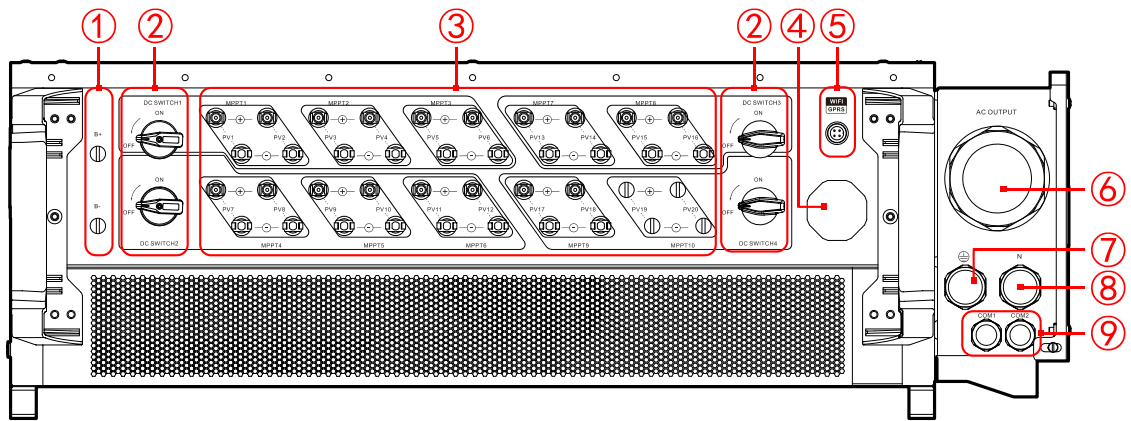

Figure2-7 Bottom layout
The bottom layout of inverter is as shown in Figure2-7.
The DC switch (as shown in the ② of Figure2-7) connects inverter with the PV string. Switch off the DC switch in the following situations for safety consideration.
WIFI/GPRS interface is as shown in ④ of Figure2-7.